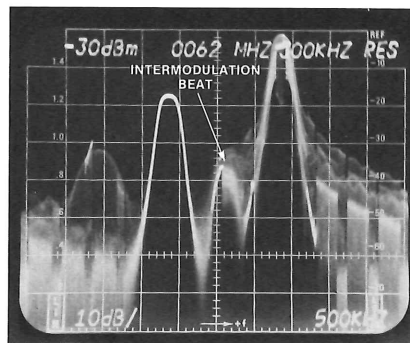

Figure 2-3. Intermodulation beat below the picture carrier.
4. Intermodulation and random beats also can be located below (to the left) of the picture carrier as shown in figure 2-3. When searching for beat signals, use the FREQUENCY con-